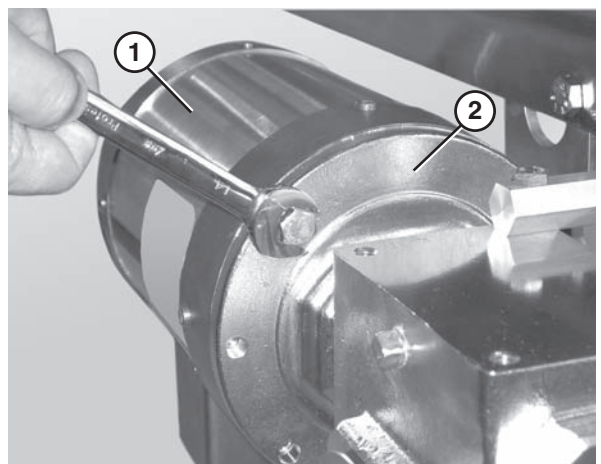

Figure 62
2. Remove the bolts that connect the motor to the drive assembly (**Figure 62**).
3. Remove the motor (**Figure 62, item 1**) from the drive assembly (**Figure 62, item 2**).